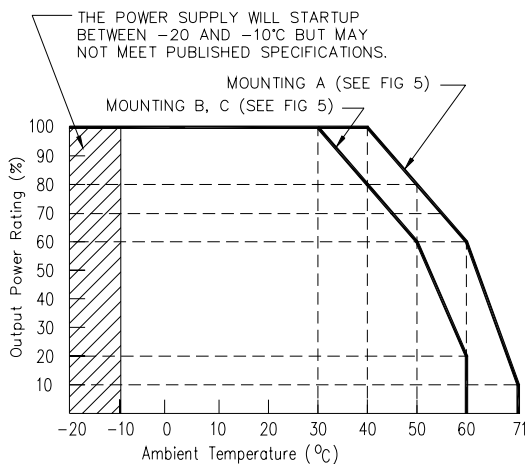

FIGURE 2. OUTPUT POWER VS. TEMPERATURE, KC MODELS (WITH COVER)
(1) An overvoltage shuts down the output. Recover by recycling a-c input (30 second delay required before resetting).
(2) Square type. After the cause of overcurrent is removed, output voltage recovers automatically.
(3) See Figure 2 for temperature and input voltage rating.
(4) Bandwidth 100MHz. Ripple and noise will be approximately 1.5 times these values in the operating temperature range -10 ~ 0°C. The ripple and noise values tabulated are valid when the output is derated as shown in figure 2 from 40 ~ 71°C.
(5) Used for remote programming of output voltage. See Section IV OPERATION, REMOTE VOLTAGE PROGRAMMING.
(6) Specifications are identical for models either K or KC suffix